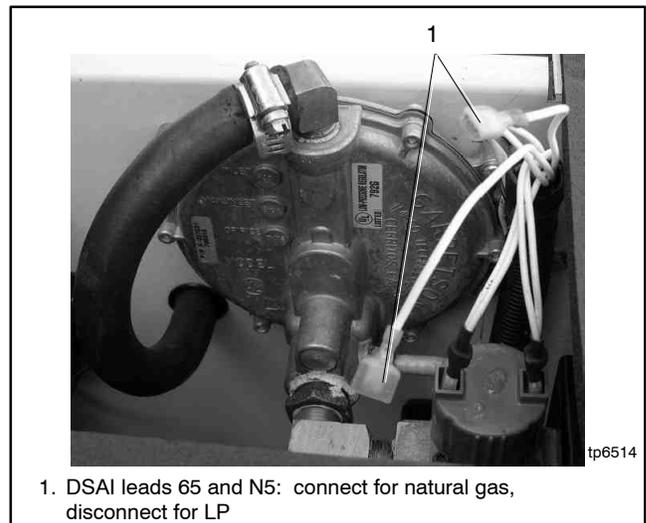

Figure 5-35 Digital Spark Advance Ignition Timing Leads (located in generator set air intake area)
8. Disconnect digital spark advance ignition (DSA) timing leads 65 and N5 for LP. See Figure 5-35.
The digital spark advance ignition (DSAI) optimizes the engine timing for the selected fuel, natural gas or LP. The location of the DSAI timing leads is shown in Figure 5-35. Connect the DSAI leads in the air intake compartment together for natural gas fuel. Disconnect the leads if LP is used. See Figure 5-35 and Figure 5-36.